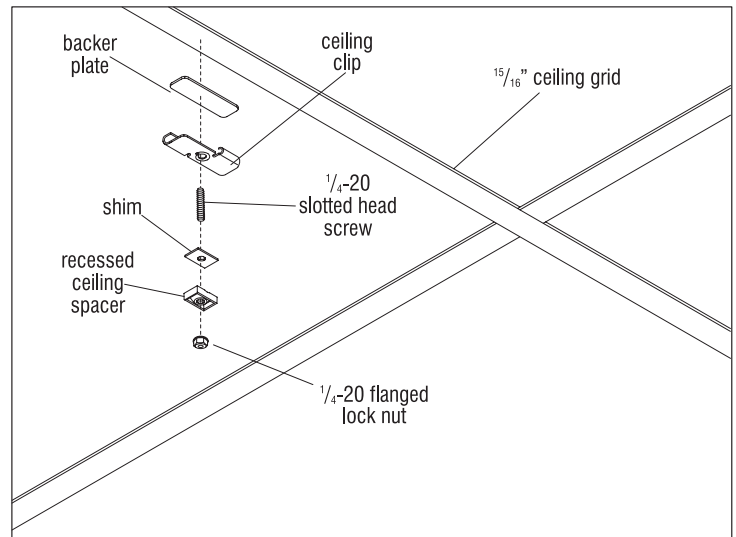
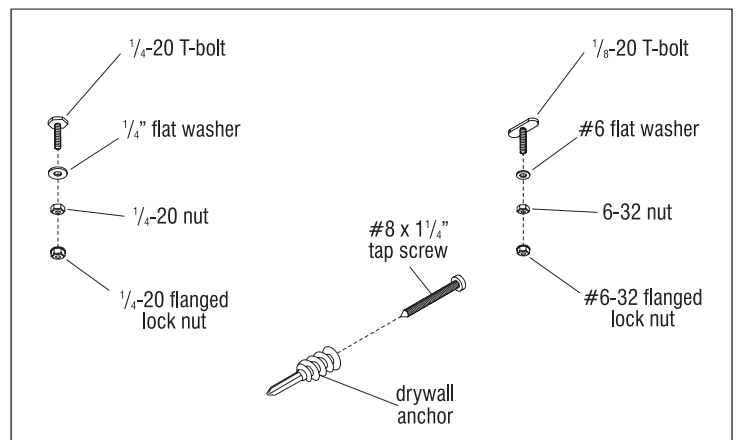

Figure 1 - $\frac{9}{16}$ " Ceiling Grid with Caddy Clips
Figure 2 - Types of T-bolts & Anchor Assemblies
- Many ceiling grids accept standard $\frac{9}{16}$ " and $\frac{15}{16}$ " wide Caddy® style ceiling clips. When ceiling clips are used in a recessed grid, spring spacers and closed cell foam must be used. Use backer plates by KI to prevent scratching of the grid (Figure 1). Fineline® $\frac{9}{16}$ " grids with a $\frac{1}{4}$ " reveal use $\frac{1}{4}$ "-20 T-bolts and $\frac{9}{16}$ " grids with a $\frac{1}{8}$ " reveal use $\frac{1}{8}$ "-20 T-bolts (Figure 2). Drywall and hidden grid ceilings require direct attachment of the rail with screws or anchors (Figure 2).
- Using the final KI Installation Drawings (shop prints) for reference and working in teams of two, fasten the ceiling rail hardware to the ceiling grid securely. For $\frac{15}{16}$ " grids, install the backer plate inside the clip, then twist the clip onto the grid. If the ceiling grid is recessed, add in the spacer and/or shims as needed. For Fineline $\frac{9}{16}$ " grids, slide the T-bolt into the grid and install the washer and nut to secure the T-bolt into position (Figures 2 & 4).
- After positioning and securing the ceiling rail with flanged lock nuts (Figures 2 & 5), ensure that it cannot slide, does not push up ceiling tiles and that there are no light gaps between the ceiling and rail. Once the panels are up, adjustments to the ceiling rail location cannot be made without removing the panels.